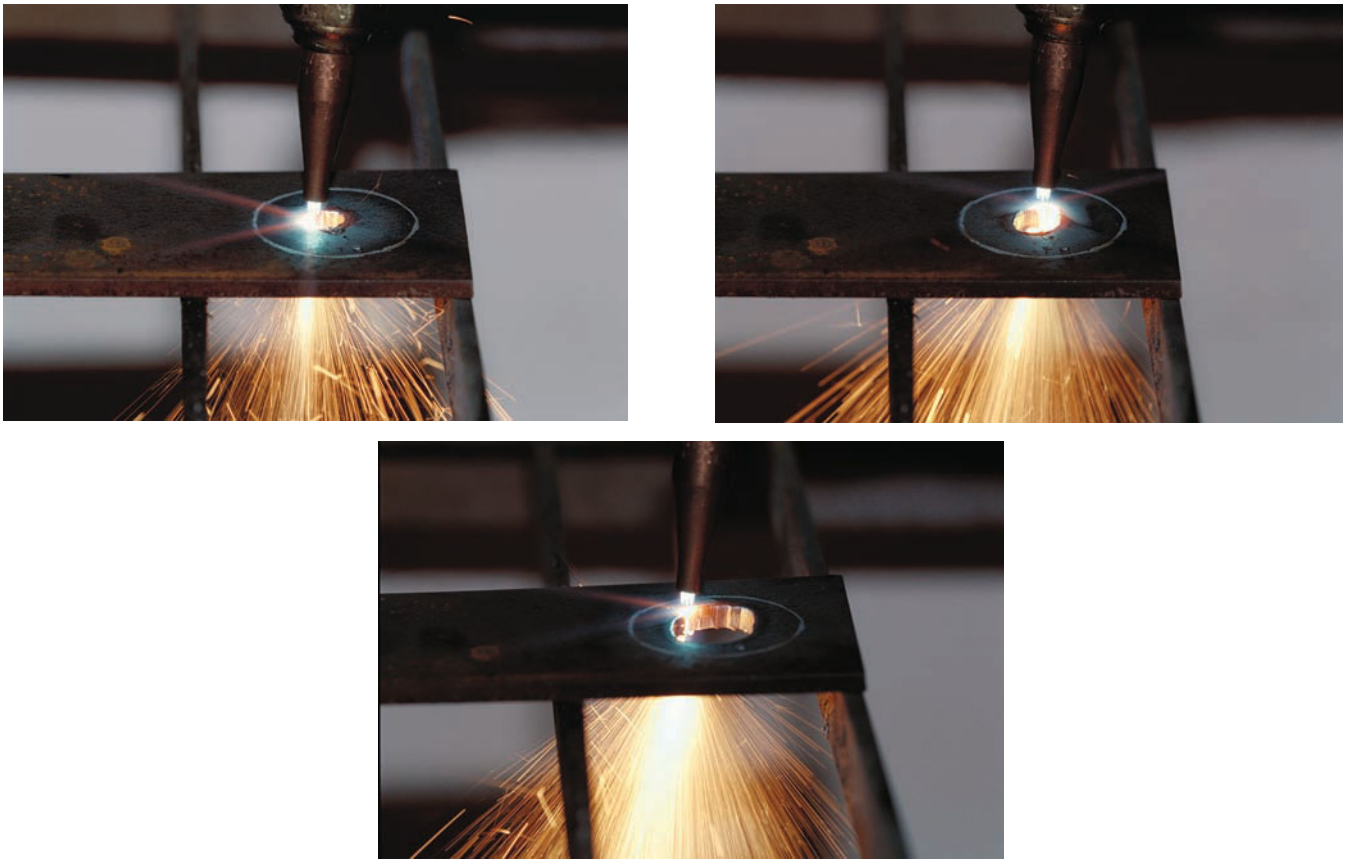

Figure 6.37 Overheating during cutting
The burning away of the metal is a chemical reaction between iron (Fe) and oxygen (O). The oxygen forms an iron oxide, primarily Fe_3O_4 , that is light gray. Heat is produced by the metal as it burns. This heat helps carry the cut along. On thick pieces of metal, once a small spot starts burning (being cut), the heat generated helps the cut continue quickly through the metal. With some cuts, the heat produced may overheat small strips of metal being cut from a larger piece. As an example, the center piece of a hole being cut will quickly become red hot and will start to oxidize with the surrounding air, Figure 6.37. This heat produced by the cut makes it difficult to cut out small or internal parts.